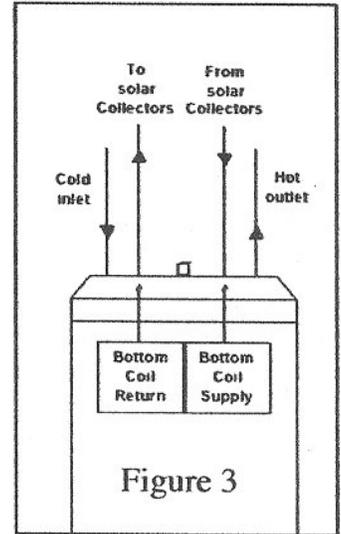

Figure 3
1. Determine where the boiler, the space heating, and the water heater connections should be made based on the type of piping system that is either in place, or is to be installed for a new hydronic system installation. See Figure 2, Boiler Water Piping with Zone Circulators, and Figure 3, Boiler Water Piping with Zone Valves.
For a space heating system that uses Zone Valves, refer to Figure 3. The water heater connection labeled "BOILER SUPPLY" should be piped to the boiler supply piping after the air purger and before the space heating circulator. Mount the water heater circulator as close as possible to the water heater, and make sure the flow arrow points toward the water heater. The use of a shut-off valve is recommended for future service convenience.